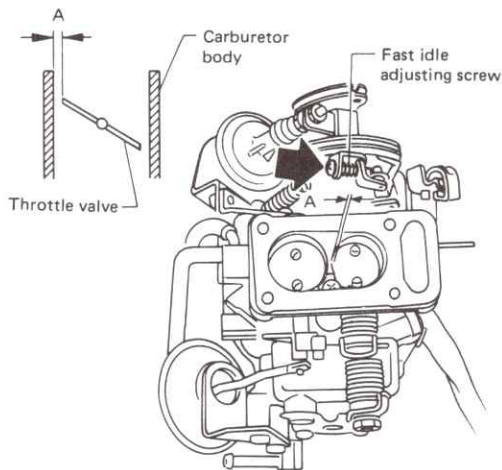

Fig. 3.8 Fast idle adjusting screw (Sec 11)
- 5 Start the engine and check that the idle speed is as specified. If not adjust on the fast idle adjusting screw (Fig. 3.8).